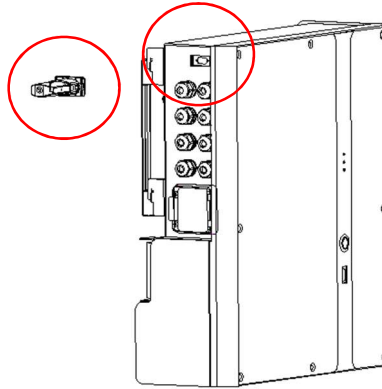

Figure 2.14 Install WiFi Module
**i** **Note:** If using WiFi module, open the cover plate of the side WiFi module, insert the WiFi module into the terminal port and then fix it with screws, as shown in Figure 2.14.